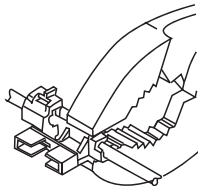

Figure 7
4. Repeat for wire W-5 End 2. Using pliers, fold the connector body and crimp. (Fig. 7)